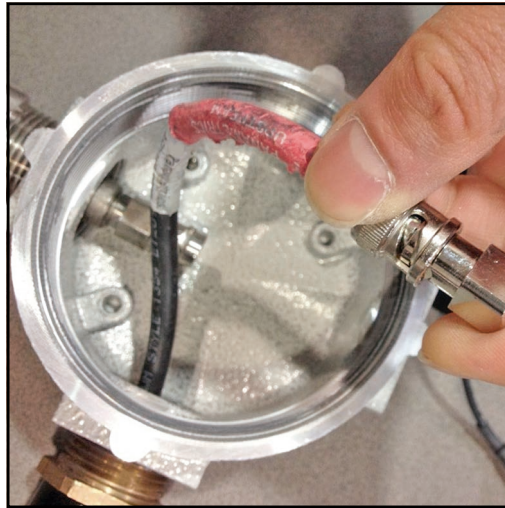

Figure 9: Connecting BNC Plug to the Cable
6. Connect the right angle male BNC plug to the exposed BNC cable from the cable gland assembly, as shown in *Figure 9* below.